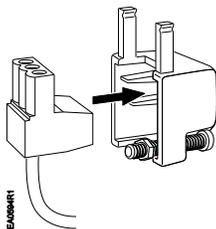

Figure 4. Terminal Plug and Terminal Connector.
4. Insert the terminal plug into the terminal connector. See Figure 4.